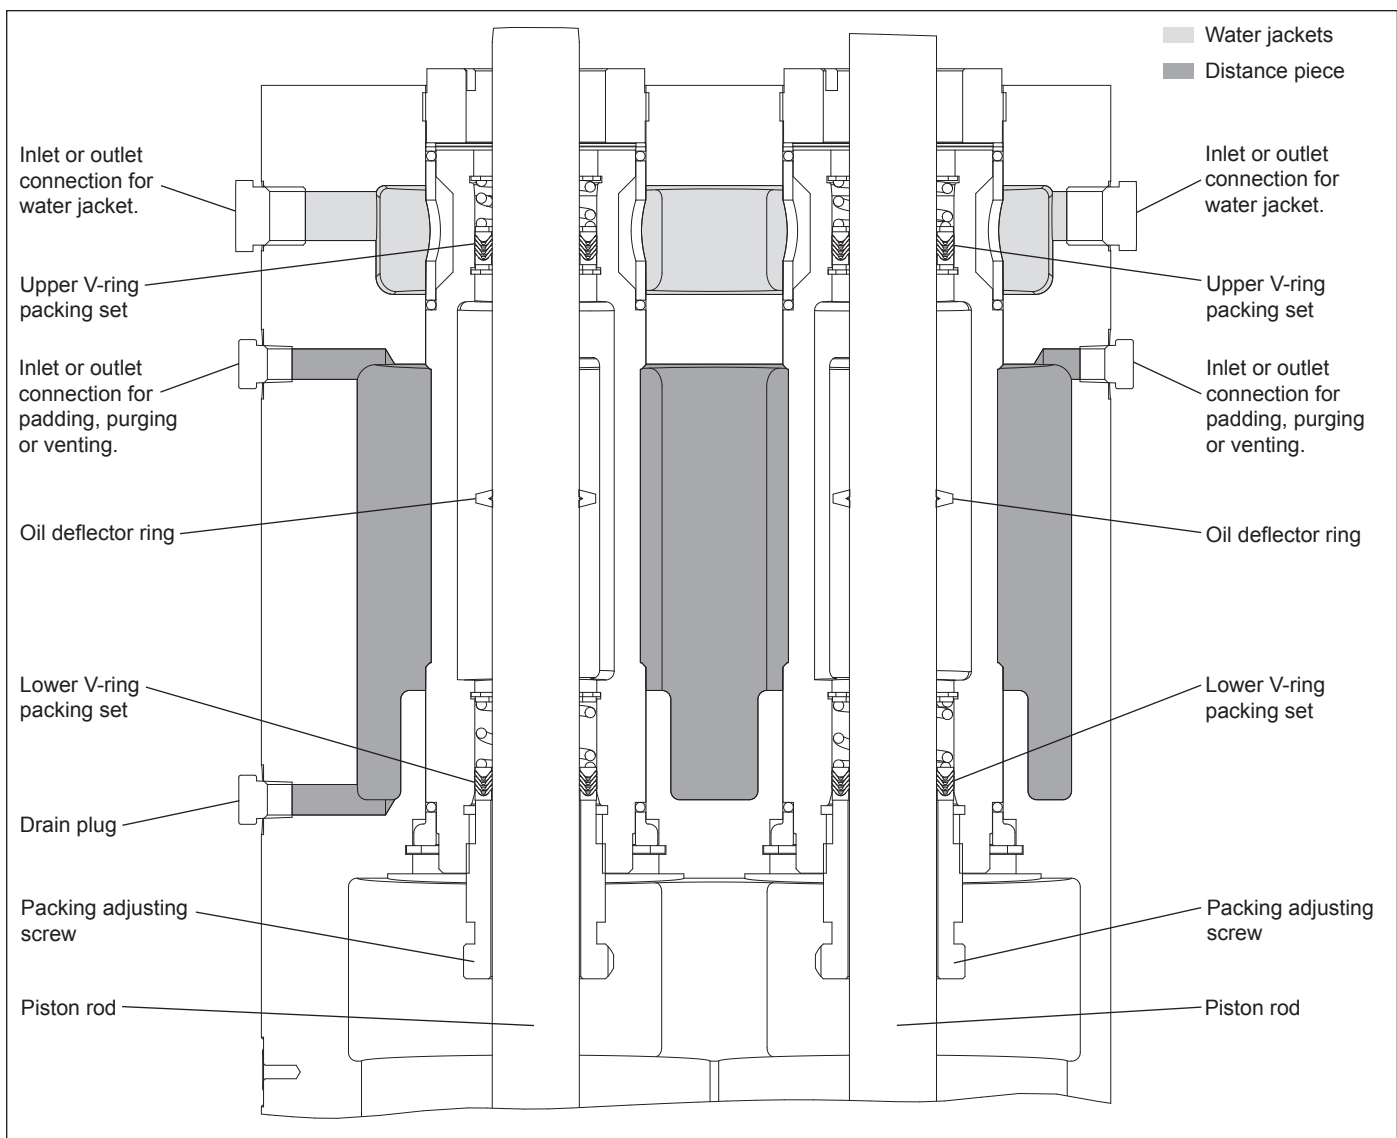

Figure 1.6: Model WFD551 distance piece details.
The key to leakage control and oil-free operation of Corken compressors is the distance piece. The distance piece is integral with the crosshead guide and forms the upper portion of it. The distance piece is equipped with tapped holes to allow purging, padding, venting, and draining (see Figure 1.6). Proper connections to and from these tapped holes are essential for optimum compressor performance.
**Since some oil will pass the bottom packing set, regular draining of the distance piece is essential to maintain oil-free operation (See Figure 1.6).** Corken recommends draining the distance piece once a week for units in continuous-duty operation. Installing a drain cock to the distance piece drain will help simplify draining of the distance piece.